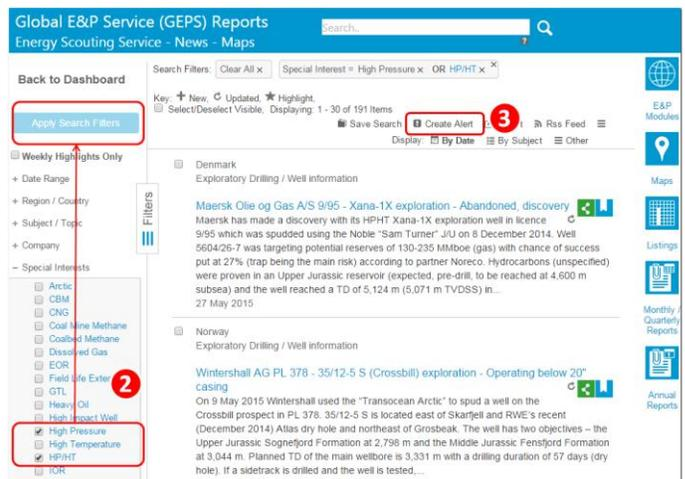

Fig 4-7: Set Filters and Create Alert
- (2) Clear any time period filter showing at the top of the search results page. Then Expand **Special Interests** filter on the left hand side panel and check on **High Pressure** and **HP/HT**. Then click **Apply Search Filters** button at the top (See Fig 4-7).
- (3) Articles matched will be displayed in the center panel. You can read each of them. Next, click **Create Alert** icon above to setup an alert.